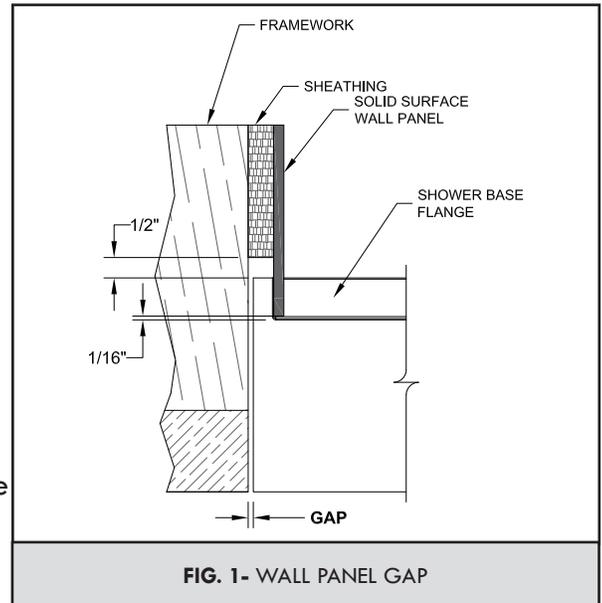

FIG. 1- WALL PANEL GAP
4. Measure the height of the sidewall that the plumbing products will be located and cut the side panel to fit the wall, leaving a 1/16" gap between the bottom of the panel and the top of the shower pan flange (**SEE FIG. 1**).